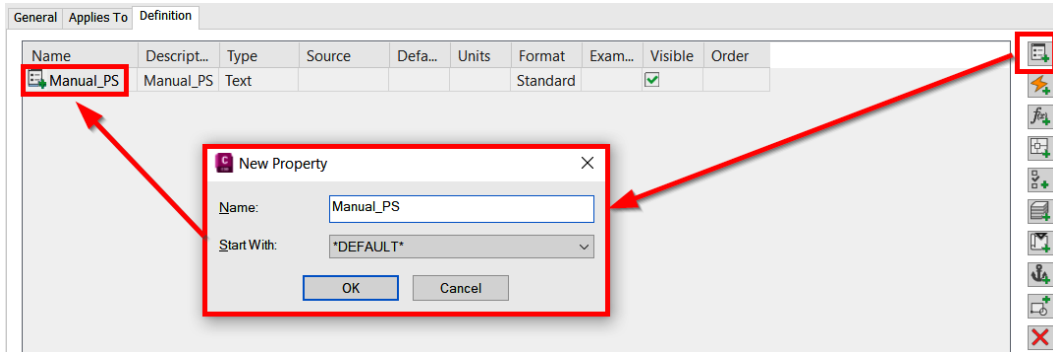

Figure 10.10 – Create Manual property set
- Starting with the **Manual** property definition, we'll click on the **Add Manual Property Definition** icon along the right side, give it a name of Manual\_PS for now, and then click **OK**. Your **Manual\_PS** property definition will then display in your **Storm Drainage** property set display (refer to *Figure 10.10*):